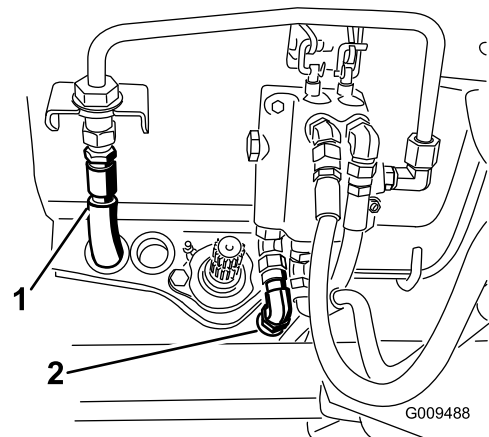

Figure 45
14. Connect the hydraulic pressure hose to the valve hard line and the tank hose to the valve (Figure 45). Retain the hose plugs for the summer change over.